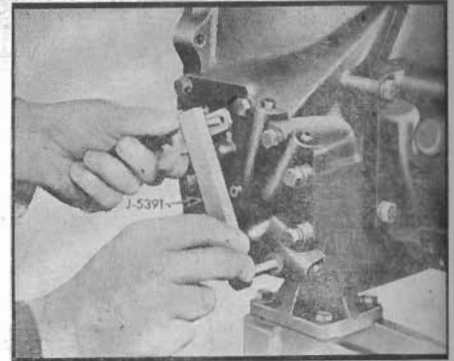

Fig. 75 Adjusting throttle valve linkage and outer lever. 1953-59
16. Rotate the throttle valve control outer lever, Fig. 75. If the large throttle position (to a definite stop).
Hold in this position and, using positioning gauge J-5391, measure the distance between the open hole in the drive valve cover and the hole in the outer lever, Fig. 75. If the large pin of this gauge will go into the open cover hole and the small pin in the hole of the lever the adjustment is correct. If not, loosen the lever-to-clamp attaching bolt and adjust accordingly. *If an adjustment is necessary, be sure that it is made with the lever in the closed throttle position.*